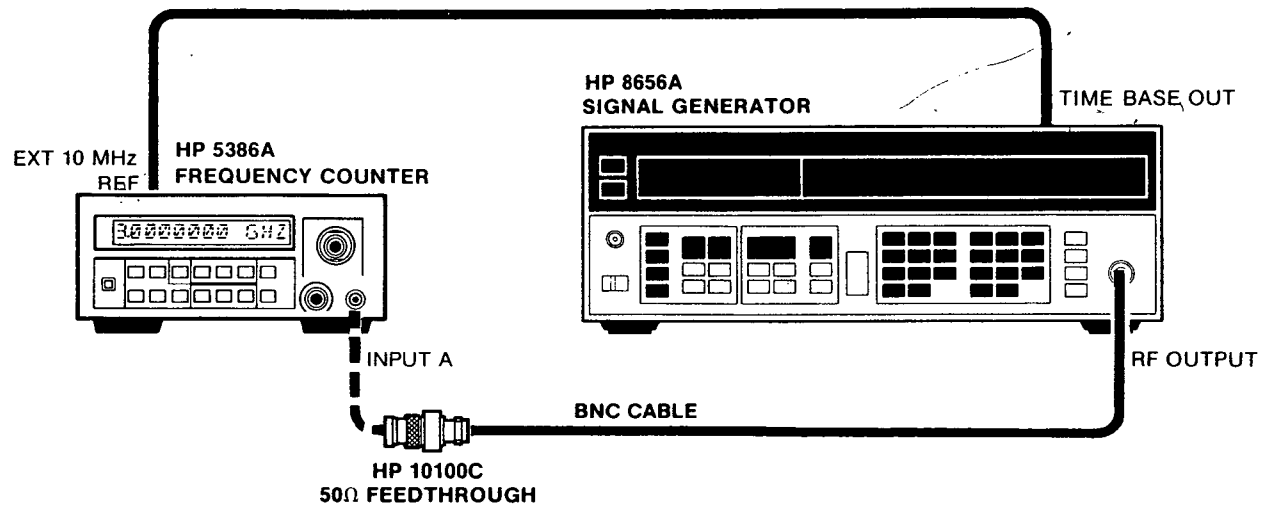

Figure 4-2. Channel A Frequency Response and Sensitivity Test Setup for HP 5386A
1. Connect the HP 8656A Signal Generator to the HP 5386A channel A input as shown in Figure 4-2.